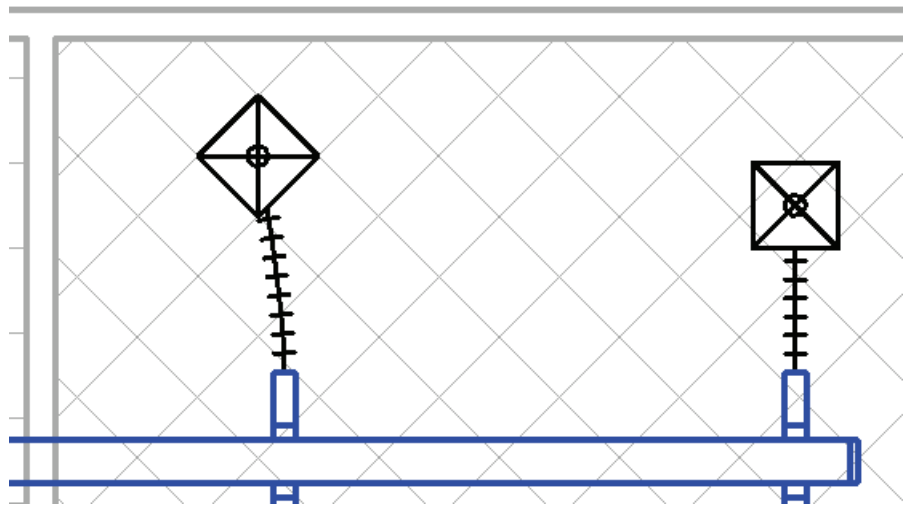

Figure 2–53
13. The flex duct moves with the air terminal as shown Figure 2–53.